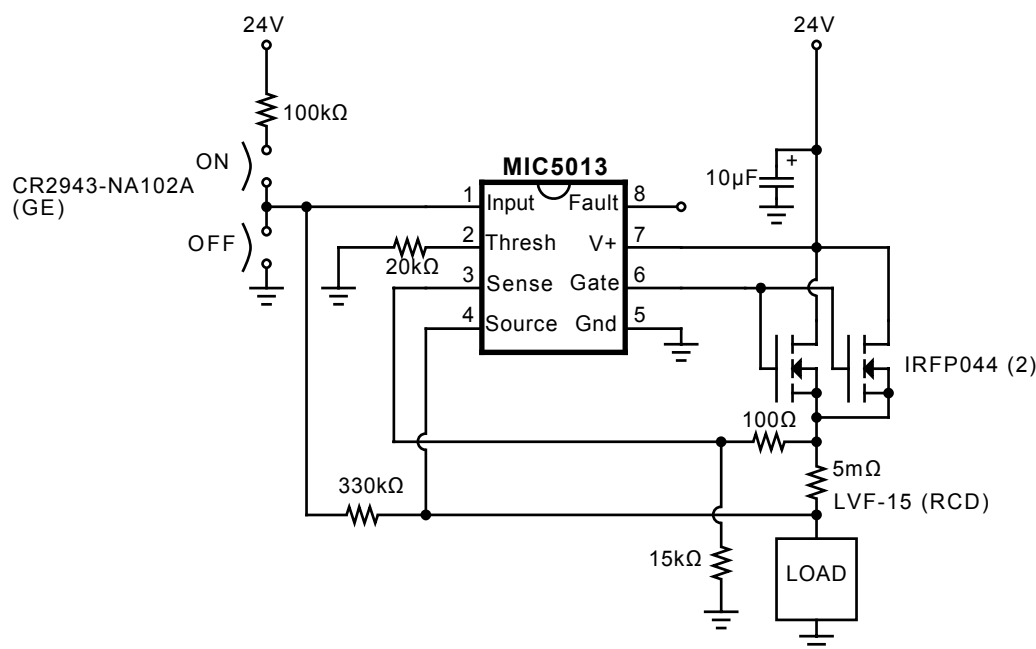

Figure 9. 50-Ampere Industrial Switch
Fault-Protected Industrial Switch (Figure 9). The most common manual control for industrial loads is a push button on/off switch. The “on” button is physically arranged in a recess so that in a panic situation the “off” button, which extends out from the control box, is more easily pressed. This circuit is compatible with control boxes such as the CR2943 series (GE). The circuit is configured so that if both switches close simultaneously, the “off” button has precedence. If there is a fault condition the circuit will latch off, and it can be reset by pushing the “ON” button.